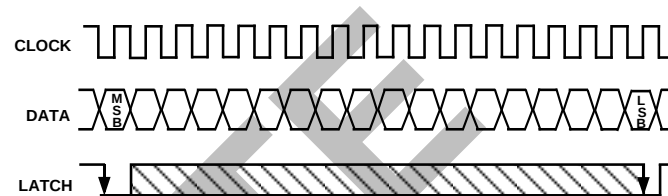
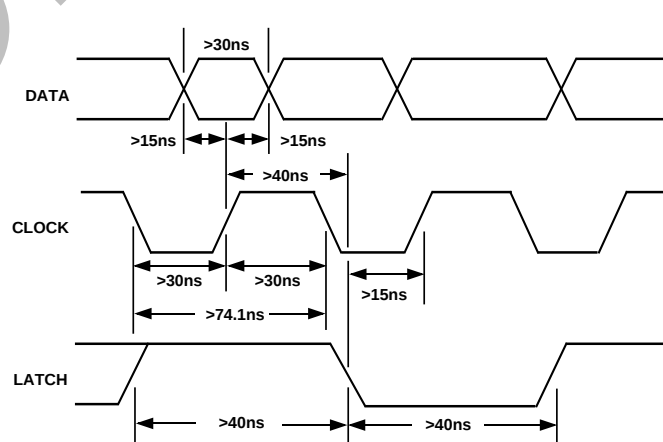

Figure 7. Signal Requirements for AD1861
Figure 8. Timing Relationships of AD1861 Input Signals
Data is transmitted to the AD1861 in a bit stream composed of 18-bit words with a serial, MSB first format. Three signals must be present to achieve proper operation. They are the Data, Clock and Latch Enable (LE) signals. Input data bits are clocked into the input register on the rising edge of the Clock signal. The LSB is clocked in on the 18th clock pulse. When all data bits are loaded, a low-going Latch Enable pulse updates the DAC input. Figure 7 illustrates the general signal requirements for data transfer to the AD1861.
Figure 8 illustrates the specific timing requirements that must be met in order for the data transfer to be accomplished properly. The input pins of the AD1861 are both TTL and 5 V CMOS compatible. The input requirements illustrated in Figures 7 and 8 are compatible with data outputs provided by popular DSP filter chips used in digital audio playback systems. The AD1861 input clock can run at a 13.5 MHz rate. This clock rate will allow data transfer rates for 2 $\times$, 4 $\times$ or 8 $\times$ or 16 $\times$ oversampling reconstructions.